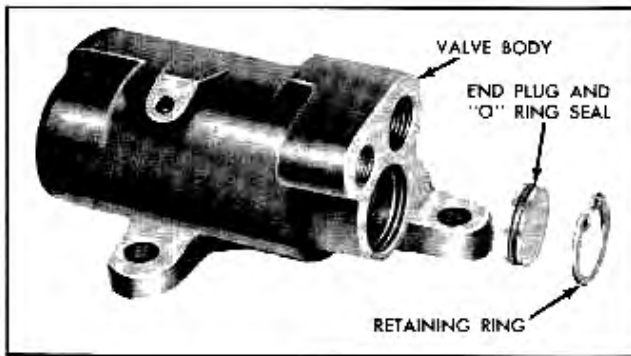

Fig. 9-32 Valve Body End Plug Seal and Retaining Ring
3. Remove retaining ring, end plug and "O" ring (Fig. 9-32) from valve body using pliers J-5403. Remove end plug seal.